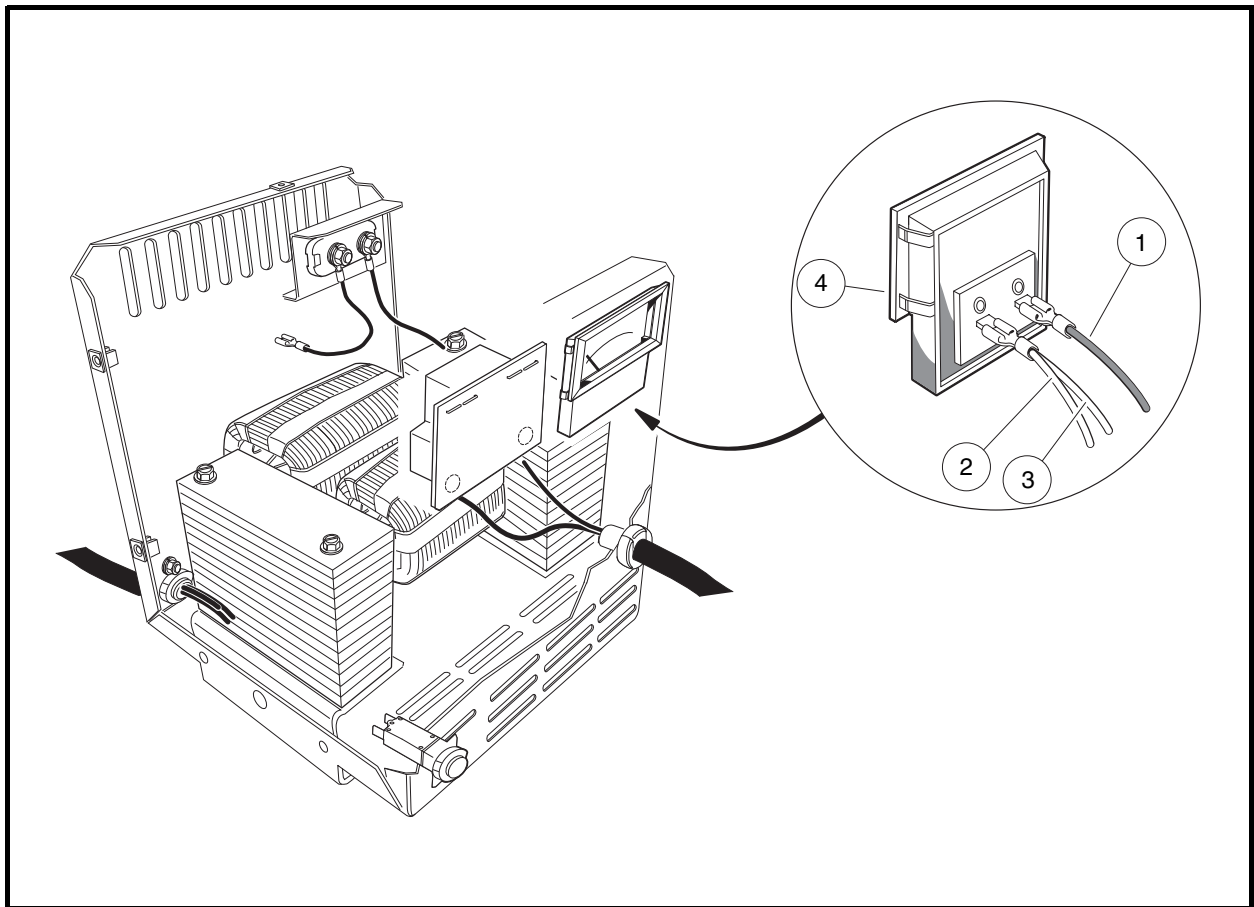

Figure 7-24 Ammeter
3. Disconnect the DC cord red wire (1) and the white wires (2 and 3) from the ammeter (4) (**Figure 7-24, Page 7-31**).
1. Place the ammeter (4) in position in the charger face and ensure that the locking tabs are secure (**Figure 7-24, Page 7-31**).
2. Connect the DC cord red wire (1) and the white wires (2 and 3) to the ammeter terminals.